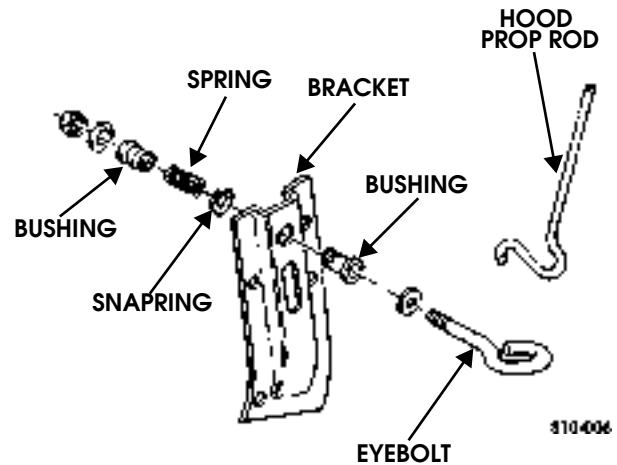

Figure 10-83: Hood Prop Rod and Bracket Assembly Breakdown
1. Remove hood prop rod from eyebolt (Figure 10-83).
Inspect two bushings and spring for cracks, wear, or distortion (Figure 10-83).
1. Secure bushing to bracket with snapping (Figure 10-83).